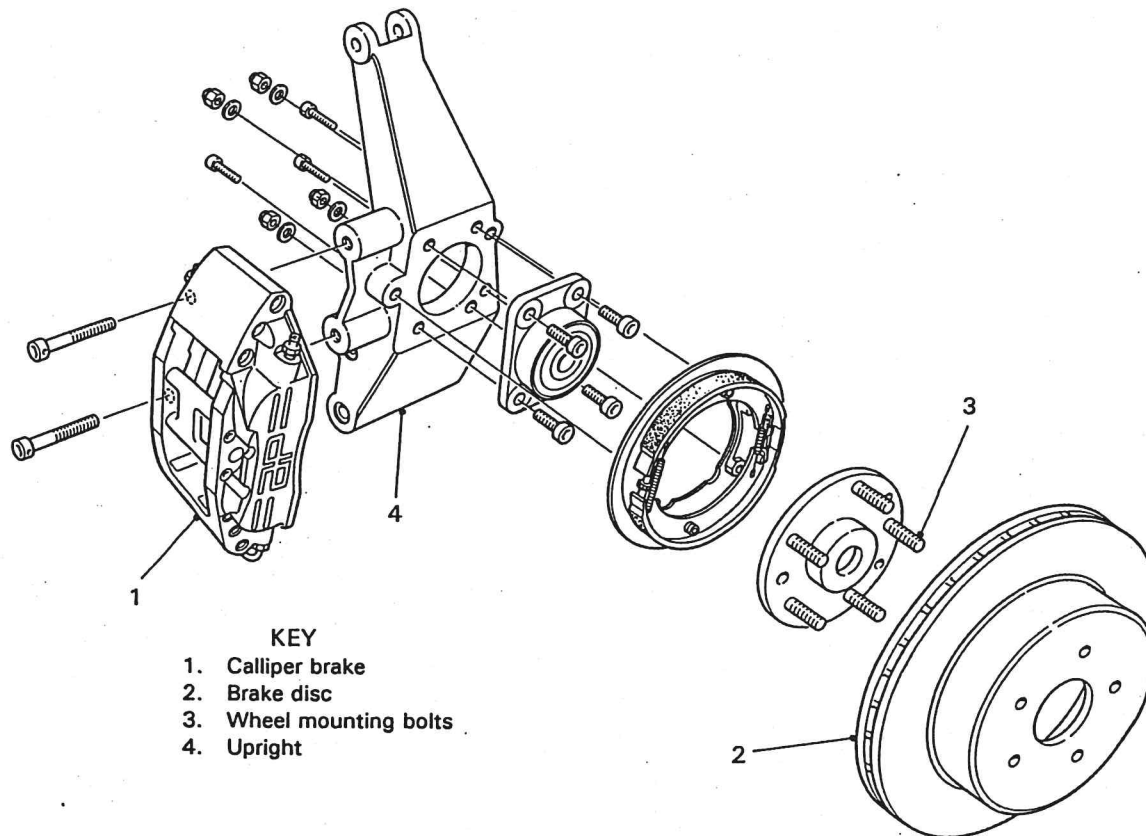

Fig. 4 Rear Calliper Brake Assembly, LH Side
5. (Refer to Fig. 4). Fit the disc (2) onto the wheel mounting bolts (3).
6. Fit the brake pads into the calliper (1) first applying a thin smear of copper slip on the back of the pad. Ensure that grease does not get onto the braking surface of the pad. Push the pad into position in the calliper between the tension springs.
7. Fit the calliper on the disc and bolt into the upright (4) using two M10 x 65mm caphead bolts supplied with the brakes. Tighten to torque and wirelock in accordance with Engineering Process Specification 5.